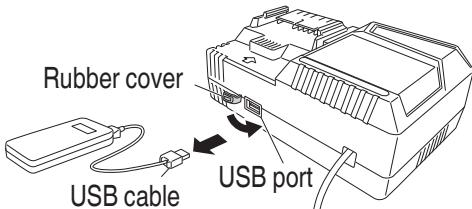

Fig. 38
(3) When charging is completed
- Unplug the power cord from the electrical outlet. (Fig. 38)